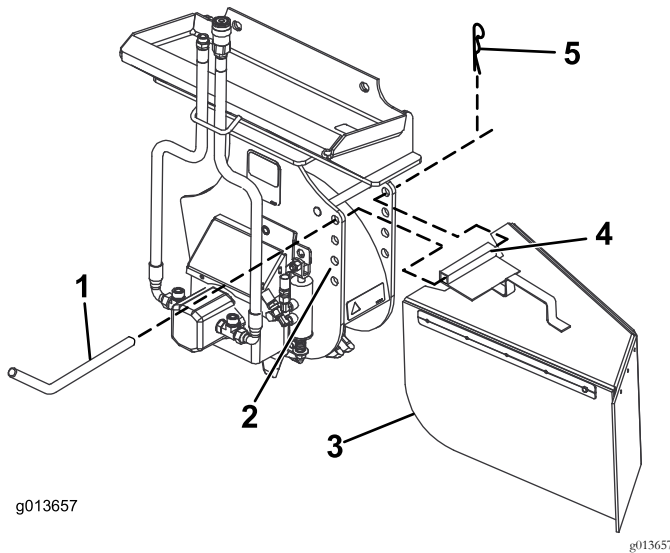

Figure 7
The stump grinder has 4 sets of mounting holes for positioning the chip guard (Figure 7). Move the guard up (upper holes) when you are grinding close to the ground and down (lower holes) when you are chipping tall stumps. Install the chip guard as follows:
- Position the mounting tube on the guard between 2 holes on the grinder (Figure 7).
- Slide the guard pin through the holes in the grinder and the mounting tube (Figure 7).
- Secure the pin with a hairpin cotter (Figure 7).